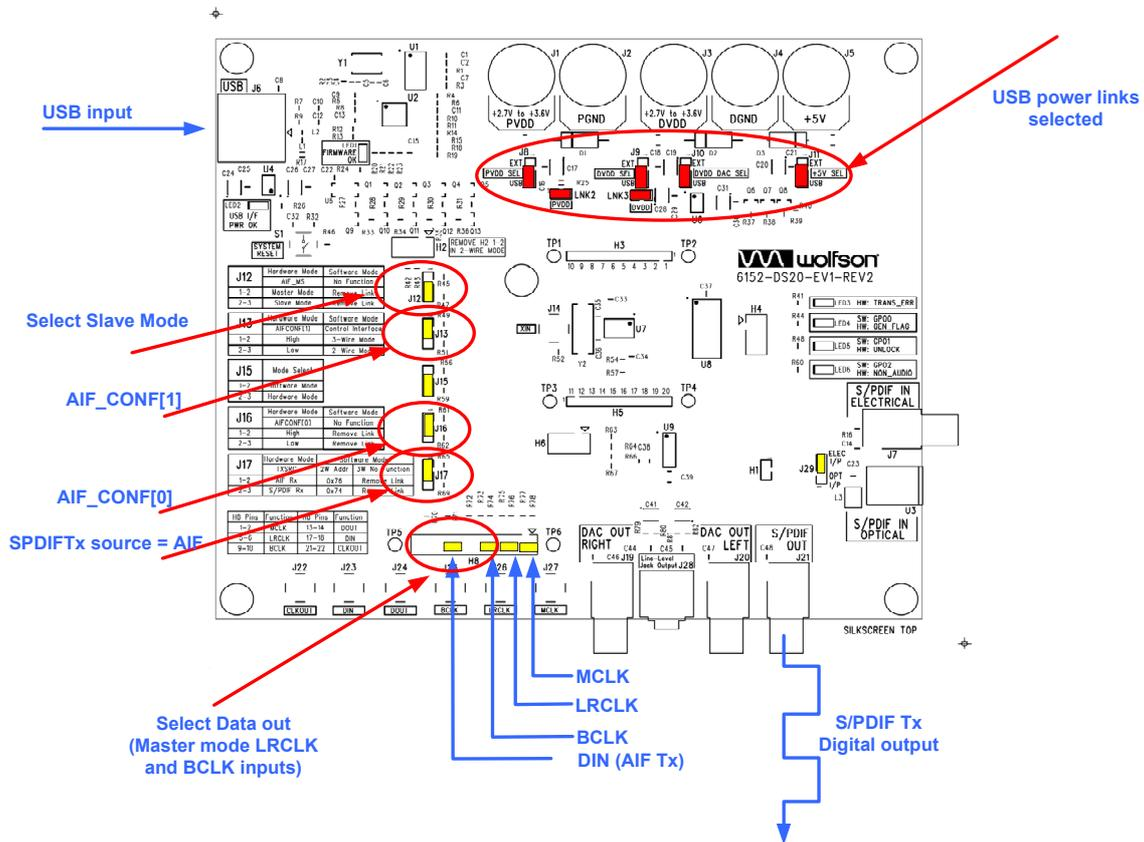

Figure 6 AIF Input Path to S/PDIF TX Output Evaluation Board Configuration
- Figure 6 illustrates the jumpers which must be made on the board.
The jumpers, input signals and output signals are shown in Figure 6. The yellow jumpers are those that are required.